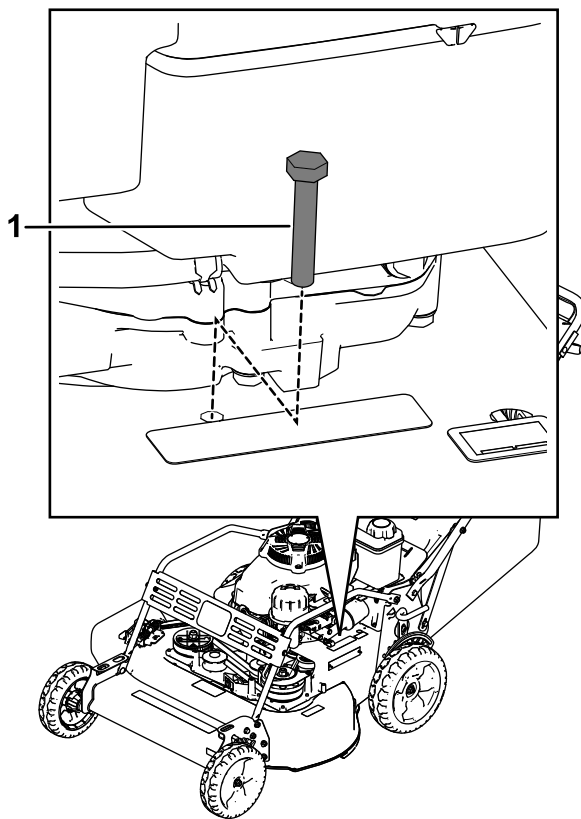
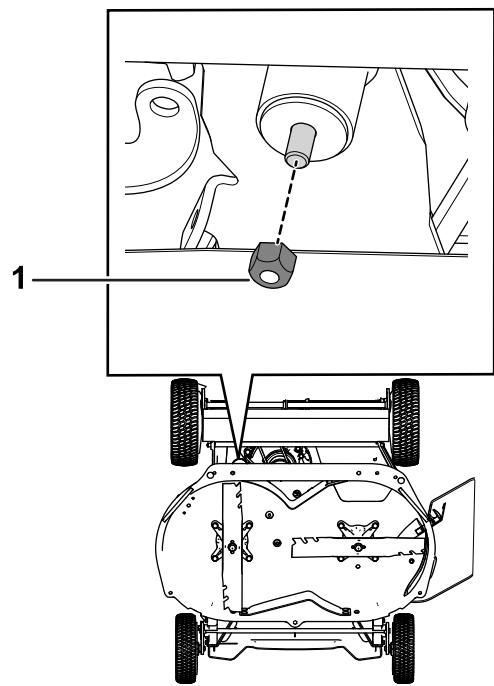

Figure 11
Figure 12
4. Use the bolt and the nut that you previously removed in step 3 to install the brake arm onto the machine (Figure 11 and Figure 12).